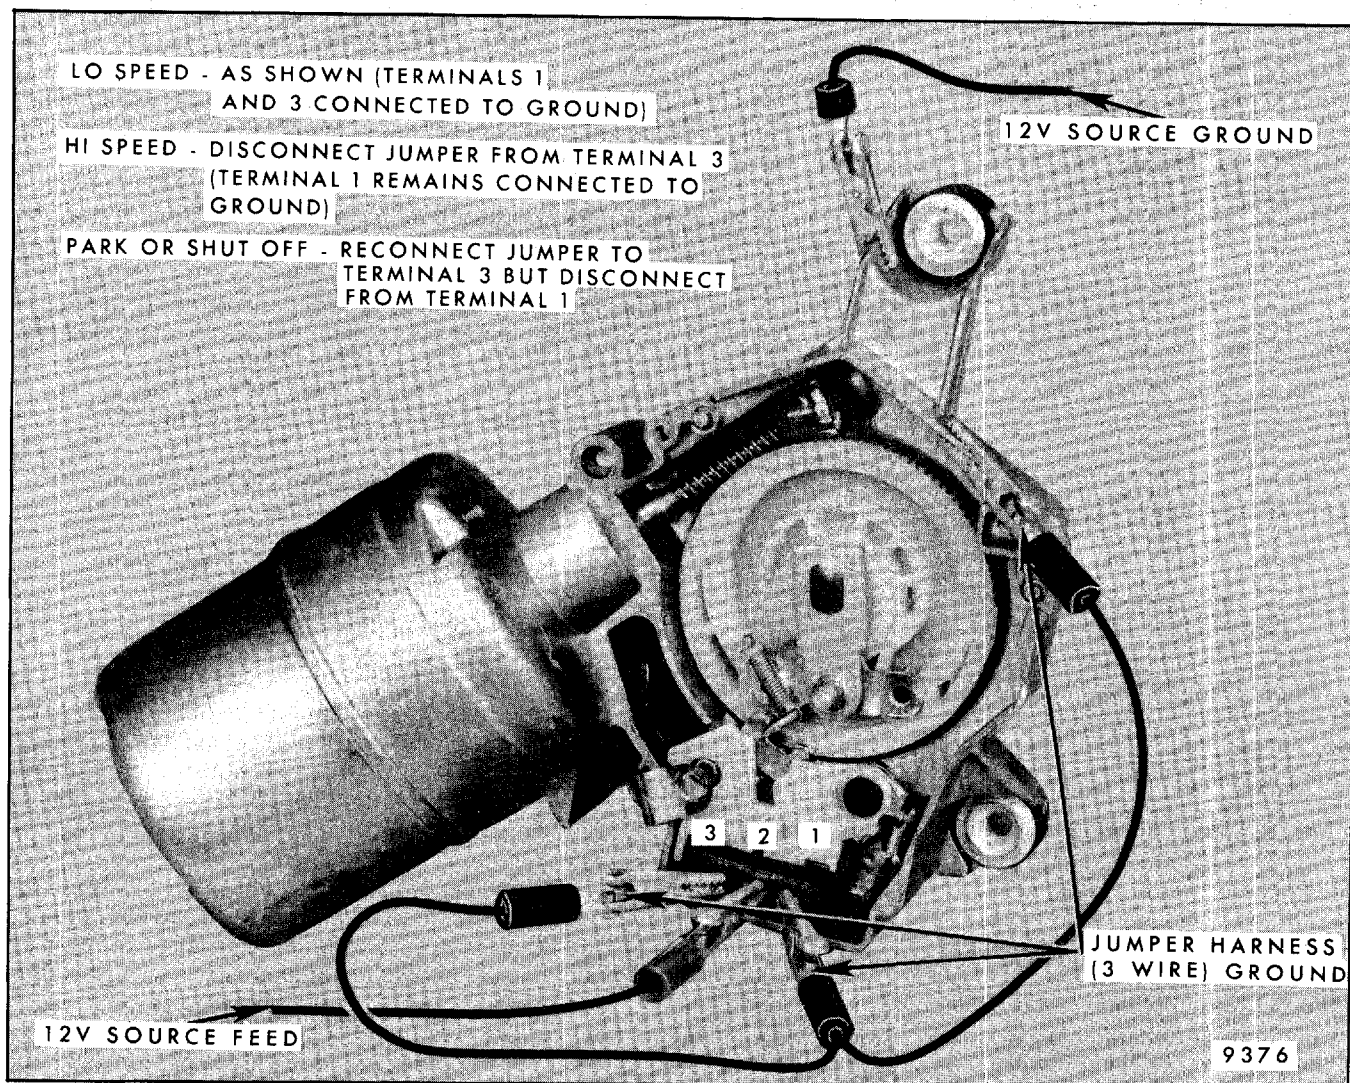

Fig. 2-31-Bench Checking Wiper Motor
2. When checking wiper operation, operate wiper independently of the car wiring or wiper switch as shown in Figure 2-31. Check wiper operation in OFF, LO and HI positions.
2. Connect 12-volt source to wiper, feed side to center terminal, ground side to gear housing (Fig. 2-31). Do not connect jumper to terminal 1 and 3.
2. Check wiper for LO speed operation (Fig. 2-31). If wiper has HI speed only, check the following items:
3. Refer to Figure 2-31 for terminal no. 3 location.
2. Connect wiper to operate in LO speed (Fig. 2-31). Connect ammeter (range 0-30 amps.) in feed wire circuit to wiper and observe current draw. Allow motor to run until it becomes hot (see Specification Chart, Fig. 2-52).